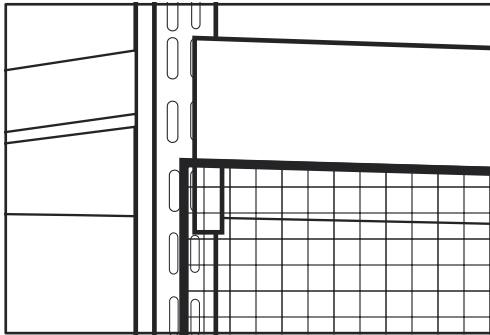

Figure 1
1. Align the pallet rack netting with the center of the upright and the bottom of the shelf beam. (See Figure 1)